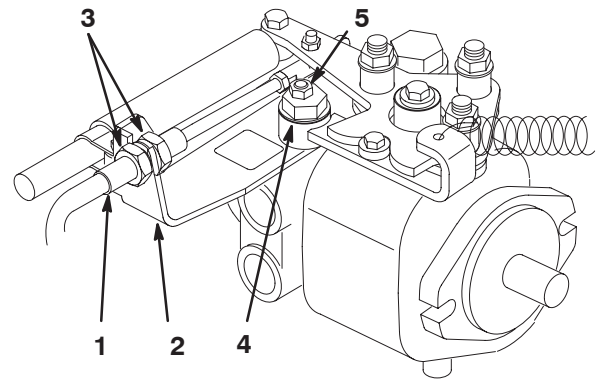

Figure 52
- A. Loosen both jam nuts securing the traction control cable to the bulkhead on the hydrostat (Fig. 52). Make sure the jam nuts are loosened equally and sufficiently to allow adjustment.
- B. Loosen the nut securing the eccentric to the top of the hydrostat (Fig. 52).
- D. Rotate the eccentric until creep does not occur in either direction. When the wheel stops rotating, tighten the nut locking the eccentric and the adjustment (Fig. 52). Verify the adjustment with the throttle in the Slow and Fast position.
- E. From each side of the bulkhead, tighten the locknuts **evenly**, securing the traction cable to the bulkhead (Fig. 52). Do not twist the cable.